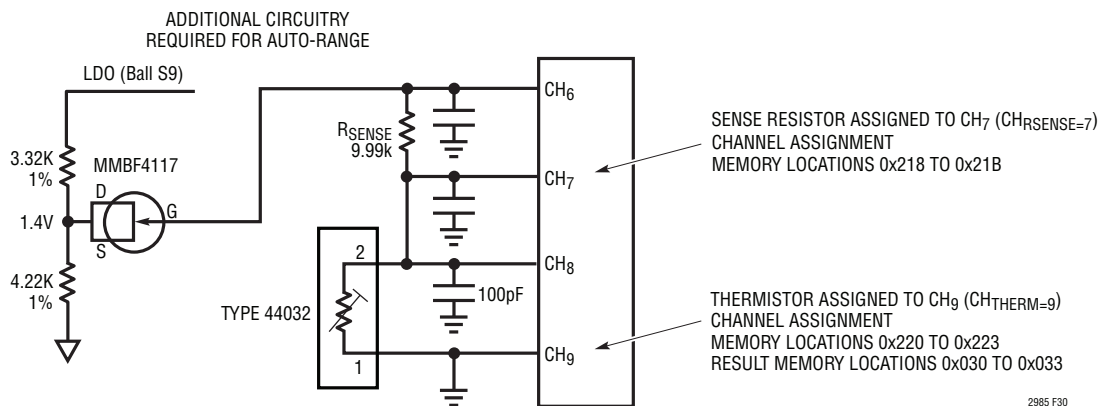

Figure 30. Differential Thermistor Example
*Additional Circuitry required for auto-range, see Figure 30.
Figure 30 shows a typical temperature measurement system using a differential thermistor. In this example a $30k\Omega$ (44032 type) thermistor is tied to a $9.99k\Omega$ sense resistor. The thermistor is assigned channel CH_9 (memory locations $0x220$ to $0x223$) and the sense resistor to CH_7 (memory locations $0x218$ to $0x21B$). Channel assignment data is shown in Table 62 and Table 63).
Note 1: Additional Circuitry required for thermistors using auto-range. See Figure 30.